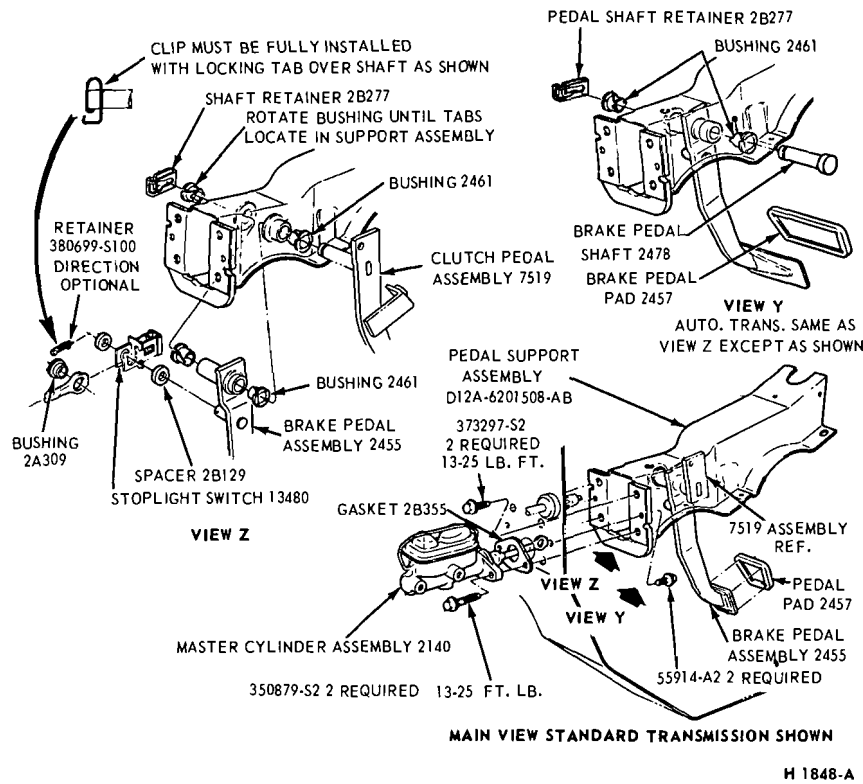

FIG. 13 Master Cylinder and Brake Pedal Installation—Pinto
2. Remove the hairpin retainer. Slide the stop light switch off the brake pedal pin just far enough for the switch outer hole to clear the pin, and then lower the switch away from the pin. Be careful not to damage the switch during removal. Slide the master cylinder push rod and the nylon washers and bushing off the brake pedal pin (Fig. 13).
1. Apply a coating of SAE 10 Engine oil to the bushings and locate bushings in their proper places on the pedal assembly and pedal support bracket (Fig. 13).
the pin, and install the nylon washer as shown in Fig. 13. **Be careful not to bend or deform the switch.** Secure these parts to the pin with the hairpin retainer.
1. Remove the clutch cable clevis shaft retainer and shaft from the clutch pedal (Fig. 13).
4. Slide the master cylinder push rod and the nylon washers and bushing off the brake pedal pin (Fig. 13).
5. Remove the self-locking pin and washer from the clutch and brake pedal shaft, then remove the clutch pedal and shaft assembly, the brake pedal assembly, and the bushings from the pedal support bracket (Fig. 13).